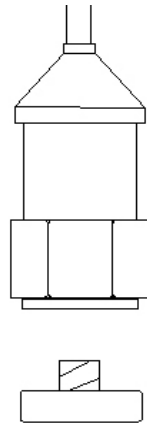

Fig. 3
- 5) If the surface material of measuring article is the ferrous material, connect " Vibration sensor " ( 3-13, Fig. 1 ) with the " Magnetic base " ( 3-14 ), refer Fig. 3.